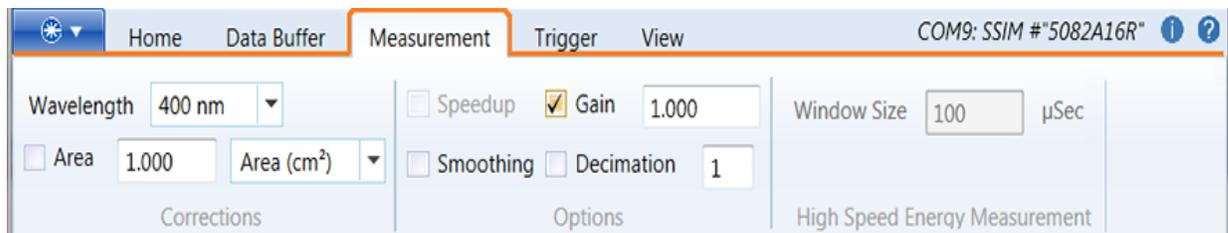

Figure 6-5. Measurement Tab
4. **[Measurement tab]** For a basic power measurement, select or change settings in the Measurement Tab, as shown in the example in Figure 6-5: